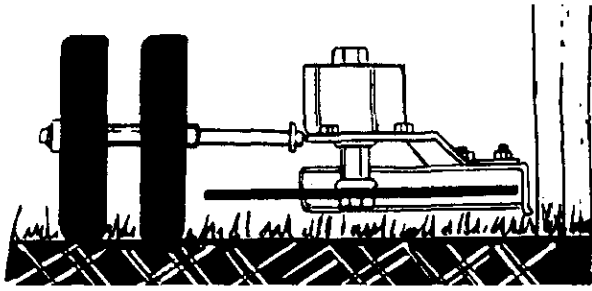

Figure 8
3. To operate the unit as a trimmer, move the adjustment lever and rotate the cutting blade 90 degrees. See Figure 8. Move the front wheels all the way to the right, as described in the SECTION 5: CONTROLS on page 6.